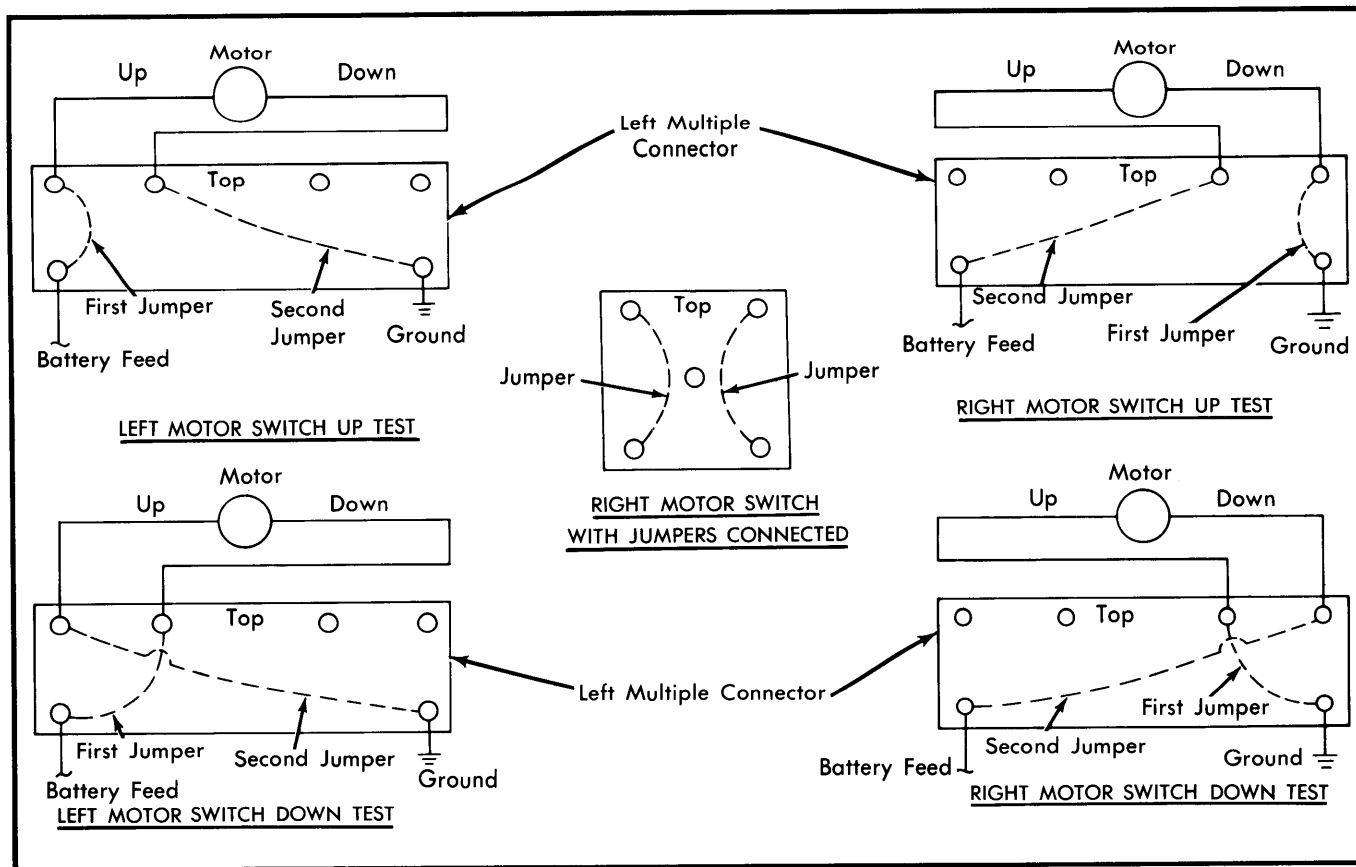

Fig. 1 Connections for Motor Switch Test
- 1) Connect one lead of jumper wire to battery lead and other lead to "UP" terminal of left multiple connector. See Fig. 1. Connect a second jumper wire with one lead to "DOWN" terminal of switch and other lead to ground terminal. Connect 2 jumper wires to right motor switch connector to operate switch.